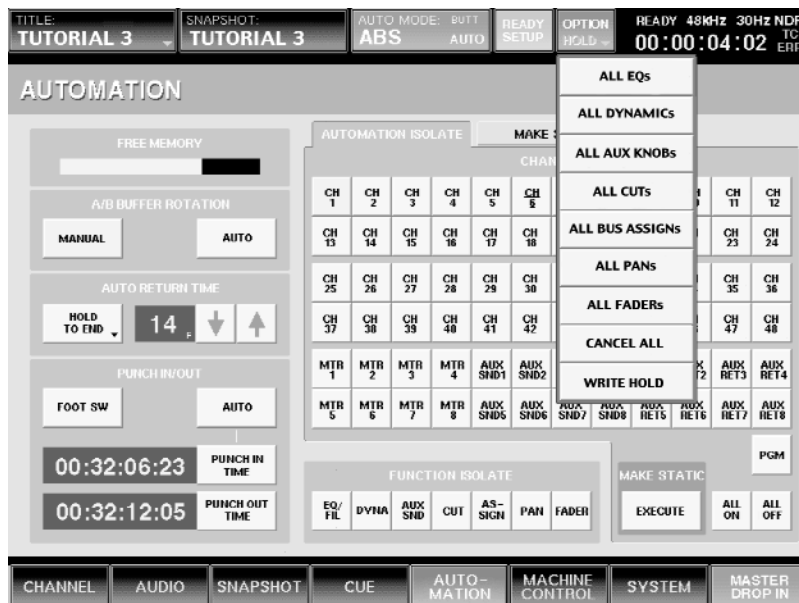

Figure 2
- Another important function allows all faders, pans, bus assignments, cuts, Aux on-off switches, Aux send levels, dynamics processing, or equalization for all channels to be globally armed. To do so, touch the READY SETUP button at the top of the touchscreen so that it turns orange and then touch the OPTIONS button to its immediate right. A dropdown menu will appear, allowing you to select any of the above; once a selection is made, all WRITE buttons for all channels will begin blinking. (See Figure 2)